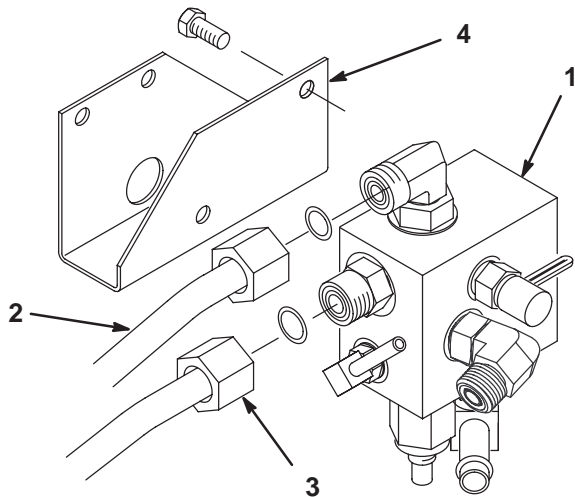

Figure 9
12. Mount the manifold block assembly to the manifold bracket with 2 flange head capscrews (5/16 x 5/8 in.) (Fig. 9). Torque the screws to 145–190 in.-lb. (16–21 N·m).
13. Loosely install the other end of the short hydraulic tube to the elbow fitting on top of the manifold block (Fig. 9).
14. Loosely install the other end of the long hydraulic tube to the straight fitting on the front of the manifold block (Fig. 9).